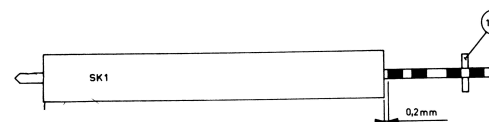

Fig. 15
SK1, Recording Switch, see Fig. 15
Depress the recording button. The switch should now be adjusted as indicated in Fig. 15. This can be adjusted by bending bracket, item 40.